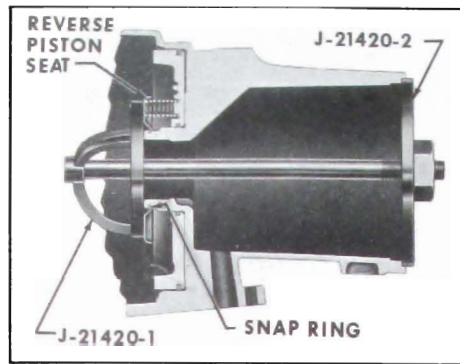

Figure 5-292
6. Using J-21420-1 and J-21420-2 compress piston return seat so snap ring may be installed with J-5586 Pliers. See Figure 5-292.